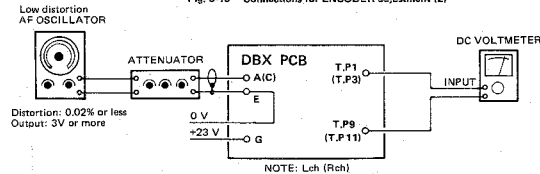

Fig. 5-16 Connections for ENCODER adjustment (3)
6. Like Fig. 5-16, connect a DC voltmeter between TP1 and TP9 for L-ch (or TP3 and TP11 for R-ch), then note the reading on the DC voltmeter with an input signal of 1 kHz  $-8$  dB (308 mV).